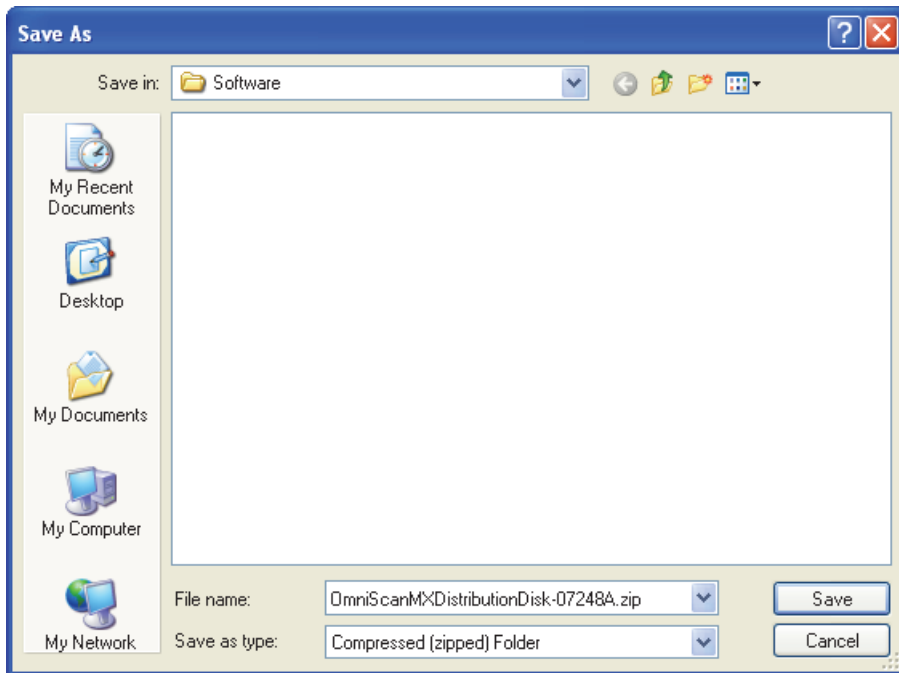

Figure 4-4 The Save As dialog box for the file download
6. In the **Save As** dialog box, in the **Save in** drop-down list box, select the folder where you want to save the ZIP file, and then click **Save** (see Figure 4-4 on page 79).